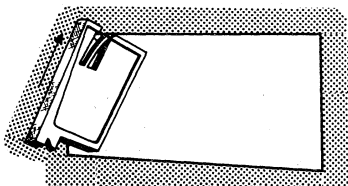

Fig. 1a
1. Slide one of the end pieces into position in the window cut in the front plate; Figs. 1a and 1b show this for the left-hand end piece.